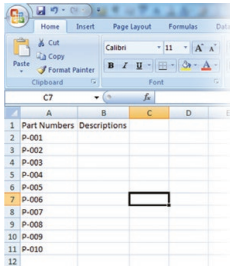

FIGURE 5
- B.** All the column’s numbers will sequence the same as the sequence used in the first two rows (Fig. 5). This example reflects 10 labels, with a sequence of 1.